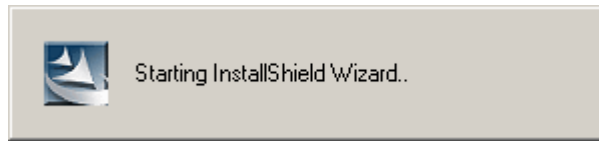

Figure 7-38: RTL8110SC InstallShield Wizard
Step 16: The InstallShield Wizard continues (Figure 7-38).